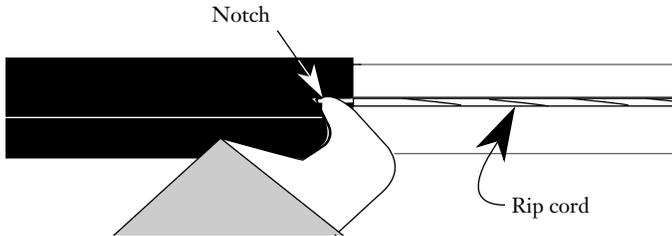

Figure 10
**4.13** Locate the inner rip cords. Use the hook blade knife to make starting notches in the cable sheath for each rip cord (Figure 10).